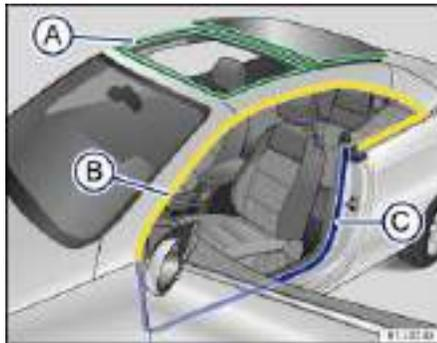

Fig. 160 Care of rubber seals: A power sunroof seals; B power window seals; C seals on the doors.
- Use a soft, lint-free cloth and a light cleaning solution to remove dust and dirt from the roof seals, shown in green ⇒ fig. 160 \(A\).